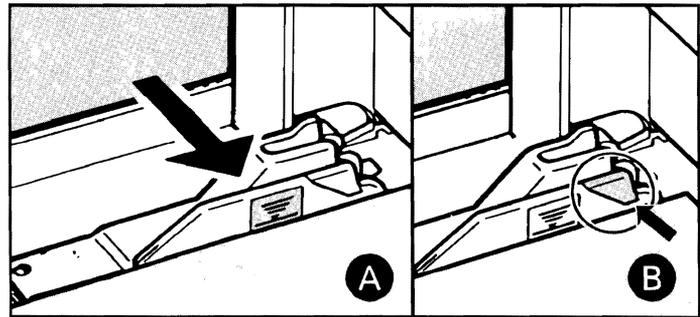

Figure 3-4.
- Slide the paper width adjuster to touch the left side of the paper or other print media you have placed in the tray, figure 3-4 (A), and tuck your paper or other print media under the white plastic paper guide, figure 3-4 (B).